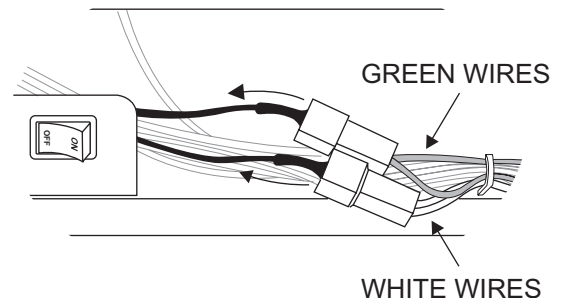

Figure 18
**"IP" Valve** - Locate the two 5-1/2-inch long black wires connected to the ON/OFF switch. Disconnect these two black wires at the green and white wire connections. Attach the flag terminals (the low voltage wire assembly found in the Instruction Packet) to the green and white wire connections. **See Figures 18 and 19.**
- b. For IP valve connections, locate the green and white wires from the control module, then connect the switch wire flag terminals to the green and white wire terminals. **See Figures 18 and 19.**
- 2b. Attach the flag terminals to the green and white wire terminals located in the bottom of the insert near the gas valve. **See Figures 18 and 19.**